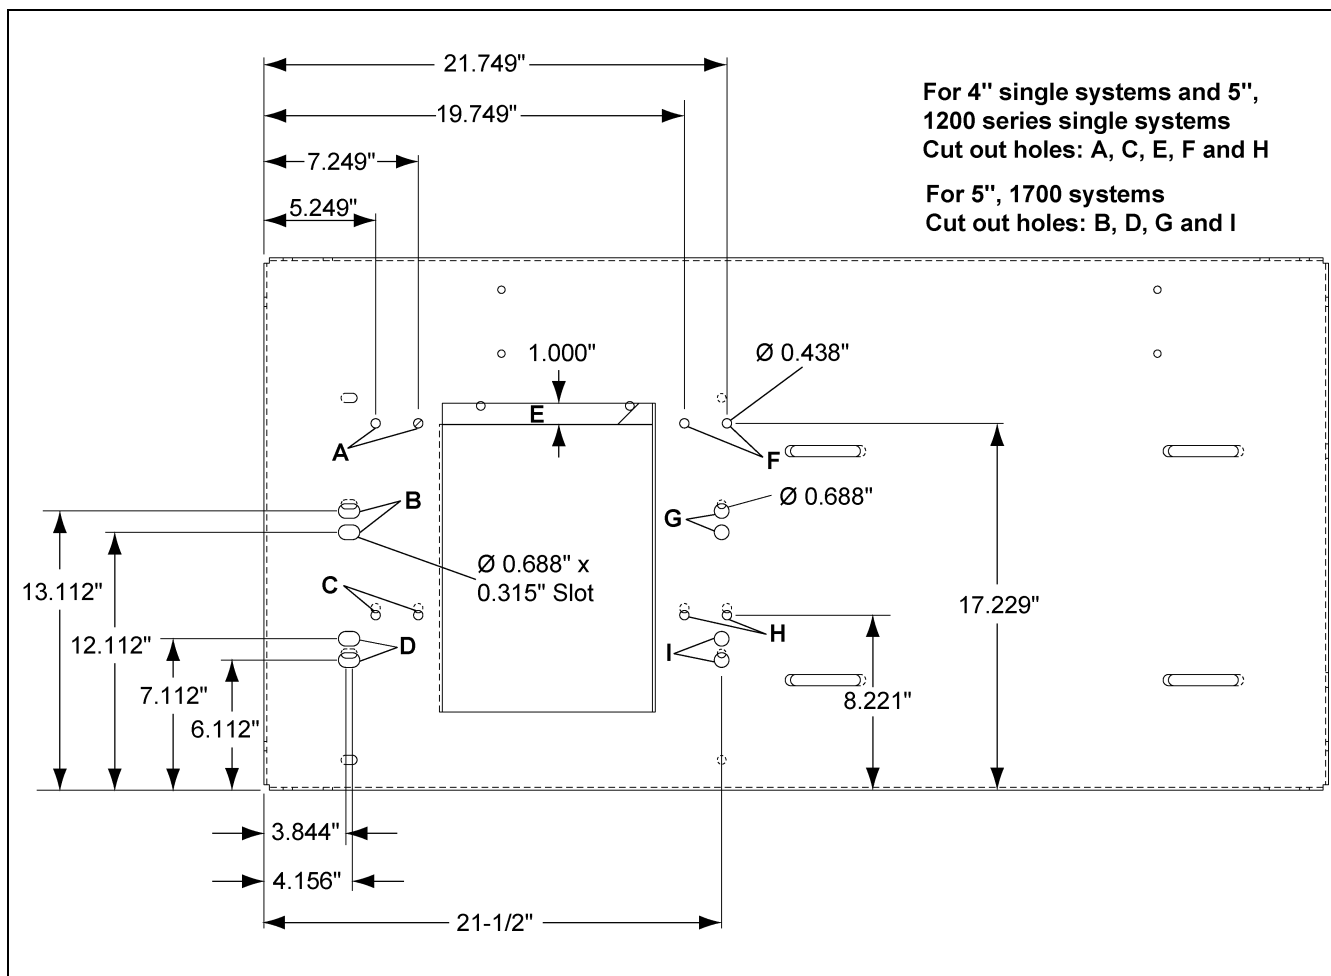

Figure 3
2. Drill holes marked B, D, G and I marked in *Figure 3* for 5" systems.